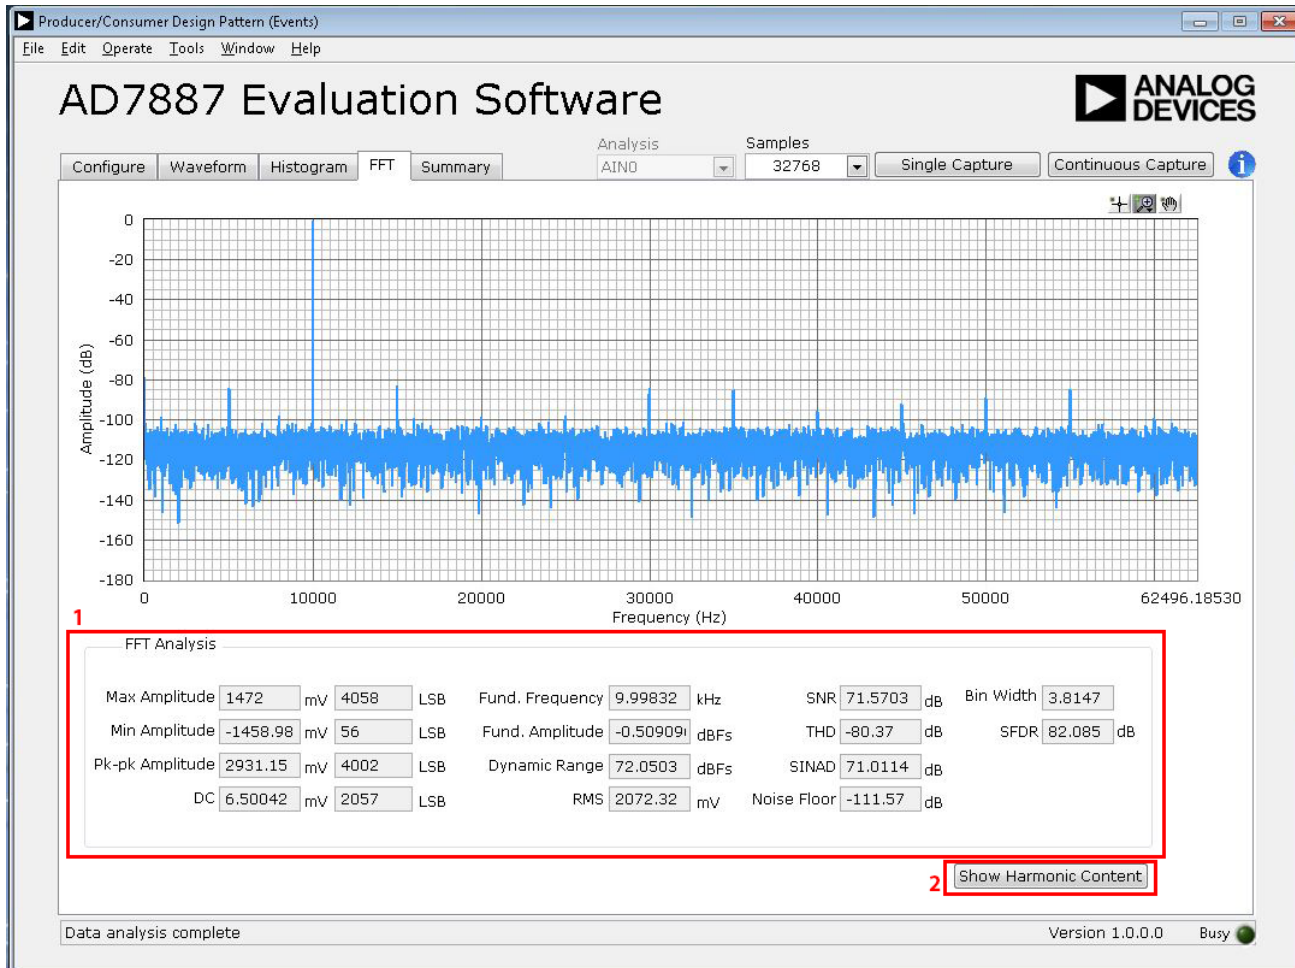

Figure 18. FFT Capture Tab
Figure 18 shows the FFT capture tab. The FFT tests the traditional ac characteristics of the converter and displays a fast Fourier transform (FFT) of the results. As in the histogram test, raw data is captured and passed to the PC, where the FFT is performed, displaying the signal-to-noise ratio (SNR), signal-to-noise-and-distortion (SINAD), and total harmonic distortion (THD).
Figure 18 displays the spectral analysis results of the captured data.
- The **FFT Analysis** panel displays the performance data: **SNR, THD, SINAD, Dynamic Range**, and noise performance along with the input signal characteristics. See Label 1 in Figure 18.
- Click **Show Harmonic Content** to switch the panel to display the frequency and amplitude of the fundamental in addition to the second harmonics to the fifth harmonics. See Label 2 in Figure 18.